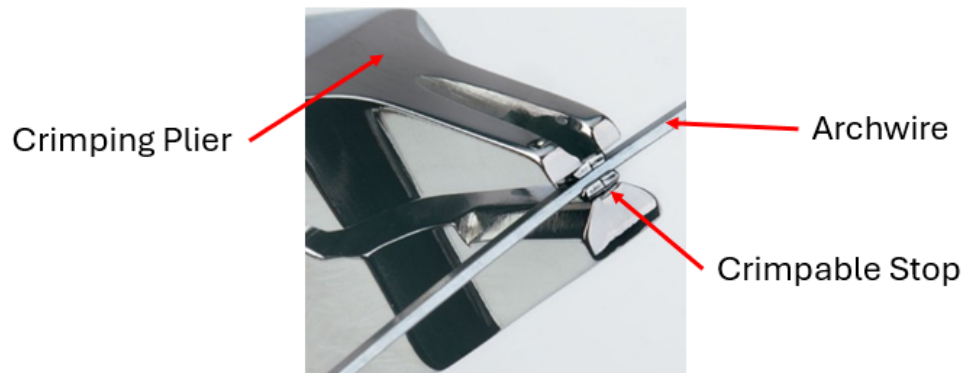

Fig.1
- Place Crimpable Stop at the desired location on archwire as shown in Fig.1